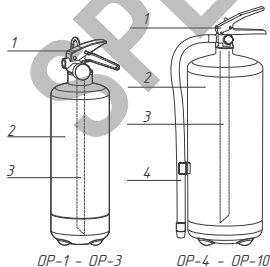

Figure 1 (does not define the design of the product)
2.1 Fire extinguisher design is shown in the Figure 1. The fire extinguisher consists of a body 2 with lock and release device (hereinafter referred as LRD) 1 screwed in its neck with a siphon tube 3. A flexible hose 4 is connected to the outlet of the valve of powder fire extinguishers 4 kg – 10 kg.